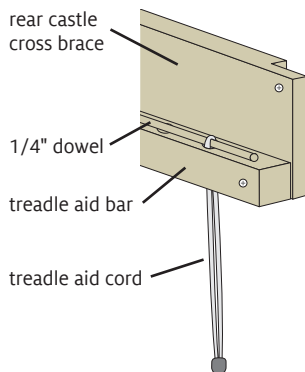

FIGURE 6: TREADLE AID
19. The treadle aid prevents shafts from floating. The treadle aid bar is already attached to the rear castle cross brace. Install the 1/4" treadle aid dowel and 10 treadle aid cords onto this bar: Starting at one end of the bar, push a treadle aid cord up through one of the holes (an opened paper clip can be most helpful) and loop it over the 1/4" dowel (Figure 6). Continue across the entire treadle aid bar. After you attach tie-up cords to the treadles, attach treadle aid cords in the same way. We recommend using a treadle aid cord on all of the treadles.